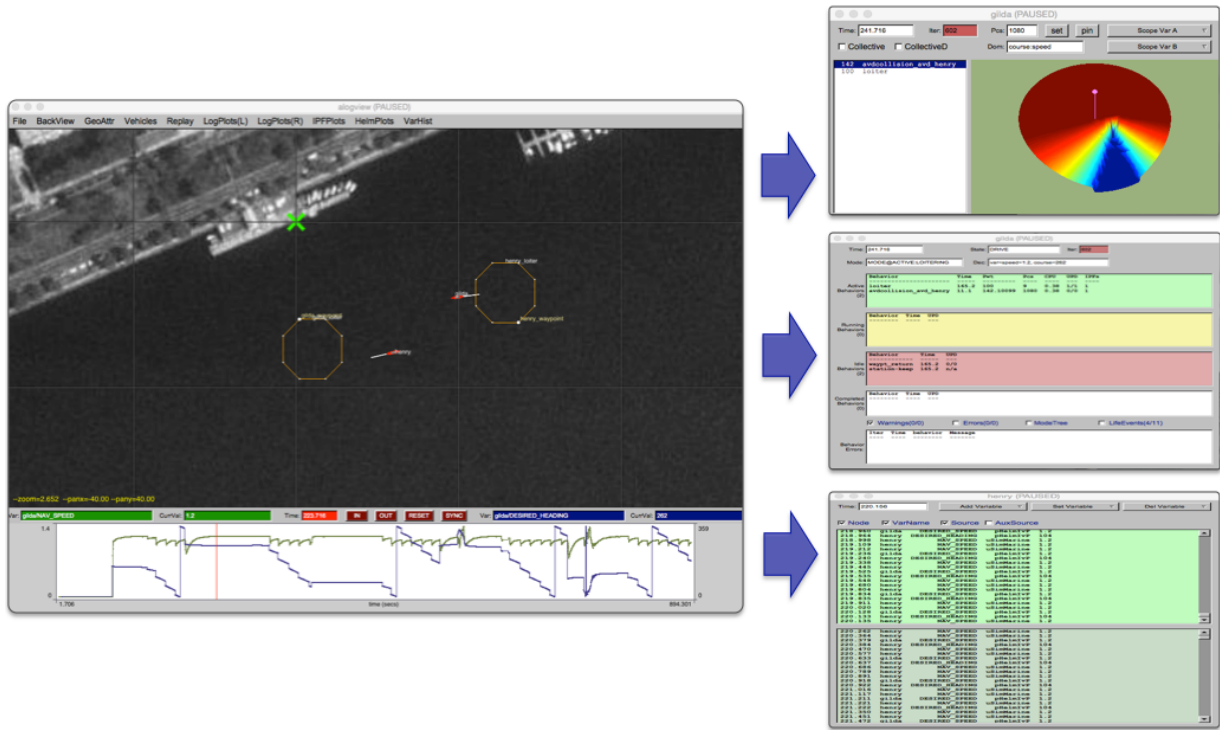

Figure 1: **The alogview tool:** used for post-mission rendering of alog files from one or more vehicles and stepping op-area and time.
- `alogview`: A graphical tool for rendering multiple vehicle trajectories, time-series plots for any logged numerical data, objective functions produced from helm behaviors, helm summary reports for any iteration in any vehicle, and interleaved variable histories for any logged MOOS variable. Figure 1 shows the primary data windows on the left and a few optional pop-up windows on the right.
The `alogview` application is a post-mission analysis utility loaded with one or more `alog` files, typically one per vehicle. It is more than a log file playback tool. A full state is maintained across all vehicles for both playing back sequentially and rewinding or jumping to any arbitrary point in time. The main window may look a bit like the run-time `pMarineViewer` window, but many of the GUI components in `alogview` are available solely for post-mission analysis. A snapshot of the tool, with no pop-up sub-windows open, is shown in Figure 1.
Figure 1: **The `alogview` tool:** used for post-mission rendering of `alog` files from one or more vehicles and stepping through time to analyze helm status, IvP objective functions, and other logged numerical data correlated to vehicle position in the op-area and time.
Upon launch, the viewer should look similar to Figure 1. Step forward or backward through time with the '[' or ']' keys, or click anywhere in the time-series in the bottom part of the screen. Replay can also be automated by accelerating or decelerating replay with the 'a' or 'z' characters. Many other replay and visualization options are available via the pull-down menus and are introduced in later sections.
- The *NavPlot* window: This is the main vehicle viewing area shown at the top in Figure 1. It primarily shows the current vehicle position(s) and perhaps recent trajectory and other geometric artifacts produced by the vehicle apps or behaviors, such as waypoints or sensor artifacts. More detail in Section 3.
- The *LogPlot* window: This is the time-series window shown at the bottom in Figure 1. The variable's rendered are selected by the user from the list any logged numerical data from any vehicle. More detail in Section 6.
The *NavPlot* window is the main viewing space, shown upon startup, with the current and recent vehicle positions rendered for each vehicle alog file. It is the top part shown in Figure 1.
The time warp is always shown in the very top of the *alogview* window. When streaming at say 16Hz, you should see (Time Warp = 16) in the window title bar. When not streaming, i.e., paused, this is indicated instead of the time warp, as in Figure 1.